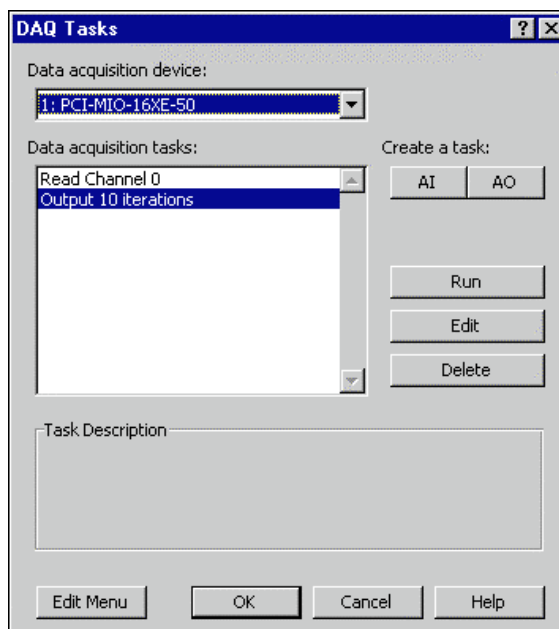

Figure 2-6. DAQ Tasks Dialog Box
9. Now you have finished configuring your first Measure analog output task. Click on the **OK** button to return to the DAQ Tasks dialog box. Notice that your new analog output task appears in the task list, as shown in Figure 2-6.